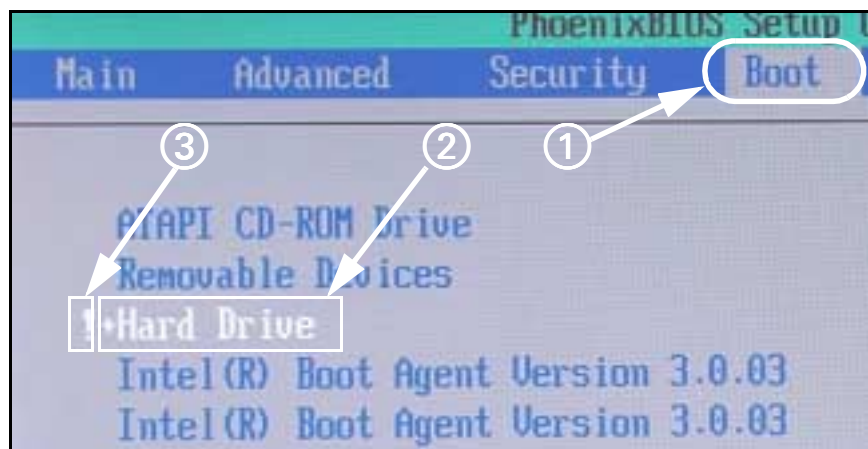

Figure 3-14 Setup Utility Window
3. At PhoenixBIOS Setup Utility window, use MDS keyboard left/right arrow keys to Select *Boot* Tab (① in Figure 3-14).
4. Use MDS keyboard Up/Down arrows to Select *+Hard Drive* (② in Figure 3-14).
6. Verify that an exclamation point **!** appears to the left of *+Hard Drive* (③ in Figure 3-14).